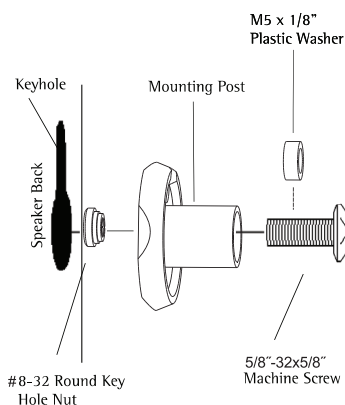

Figure 4
8. Loosely pre-assemble the mounting post with the 5/8"-32x5/8" machine screw and key hole nut (Figure 4).
10. Put tension on the assembly by gently pulling back on the speaker mount post while tightening the 5/8"-32x5/8" machine screw (Figure 4).
12. If the post does not tighten securely against the housing, it will be necessary to use the M5 x 1/8" plastic washer as a spacer under the head of the 8-32 x 5/8" machine screw (Figure 4).